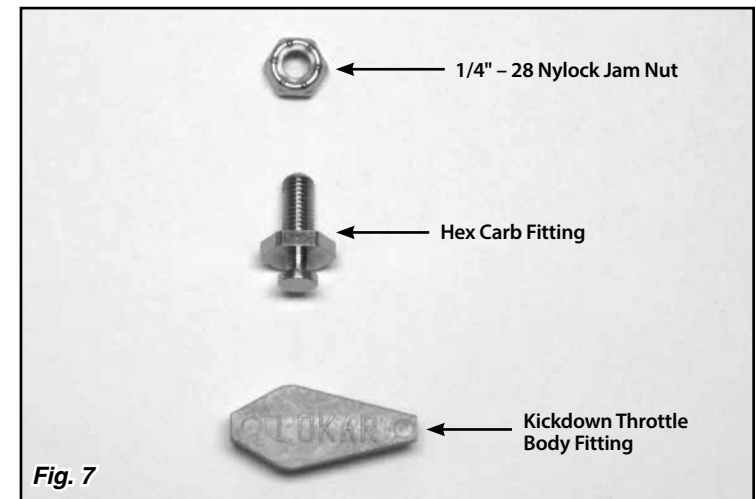

Fig. 7
Step 9: The tear drop will be attached to the throttle arm by the hex carb fitting. Separate the hex carb fitting from the kickdown throttle body fitting as shown in **Fig. 7**. Install the tear drop with the hex carb fitting and the 1/4"-28 nylock jam nut onto the throttle arm. Hook the springs to the tear drop and tighten the nylock jam nut. **Fig. 8** Then, back the nut off just enough so that the tear drop can rotate freely.